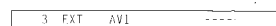

Fig.9.
- 6 Using  $\Delta$ + or  $\nabla$ -, select C (to preset a regular channel), or F (to tune in by frequency) and press OK. The first element of the "CH" number will be highlighted. If you have selected EXT in step 5, select the video input source with  $\Delta$ + or  $\nabla$ -. (See Fig. 9.)